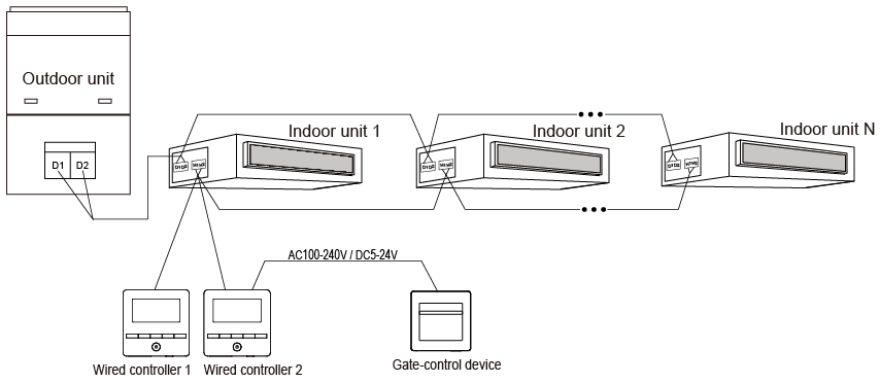
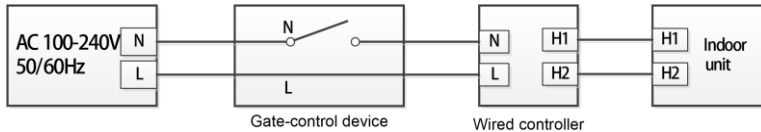
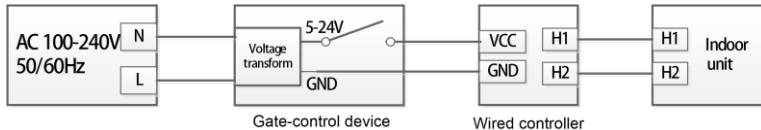

Figure 3.11 Connection fashion 2 of Wired Controller and Gate Control
Figure 3.12 Wired Controller Connecting to Gate Control AC100-240V
Figure 3.13 Wired Controller Connecting to Gate Control DC5-24V
- ① Wired controller 2 in figure 3.11 can be set as master controller or slave controller;
- ② Wired controller 1 in figure 3.11 can be model XK49 or other models.
- (4) Power input of gate control card insertion/removal device supported by wired controller: AC 100-240V~50/60Hz, DC 5~24V. In practice, connect the gate control output power cord with the corresponding power supply interface of wired controller according to the type of output power of gate-control device (Please refer to 3.1.4 Installation for wire connection of specific interface). Wired controller will judge the placing and absence of card by detecting the power supply of gate-control device. The detecting process is as follow:
- (5) Inserting or removing the gate control card is like connecting or disconnecting power of the gate control device. When the card is inserted, the device supplies power AC100-240V/DC5-24V to wired controller which identifies card insertion. When the card is removed, the device stops supplying power AC100-240V/DC5-24V to wired controller which identifies card removal. Figure 3.12 and figure 3.13 demonstrate wired controller connecting gate control power of AC100-240V or DC5-24V: